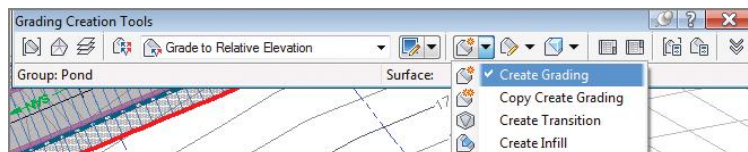

FIGURE 17.12 Selecting the Create Grading command
- Expand the list of creation commands, and click Create Grading, as shown in Figure 17.12.